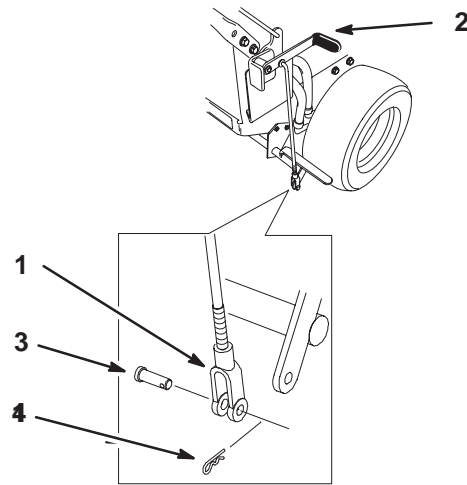

Figure 37
1. Set the parking brake (Fig. 37).
The brake handle is on the right side of machine (Fig. 37). If the parking brake does not hold securely, an adjustment is required.
3. To adjust the brake, remove the hair pin cotter and clevis pin from the lower brake lever (Fig. 37).
4. Rotate the yoke in to tighten the brake and rotate out to loosen the brake (Fig. 37).
5. Secure yoke to lower brake lever with the hair pin cotter and clevis pin (Fig. 37).